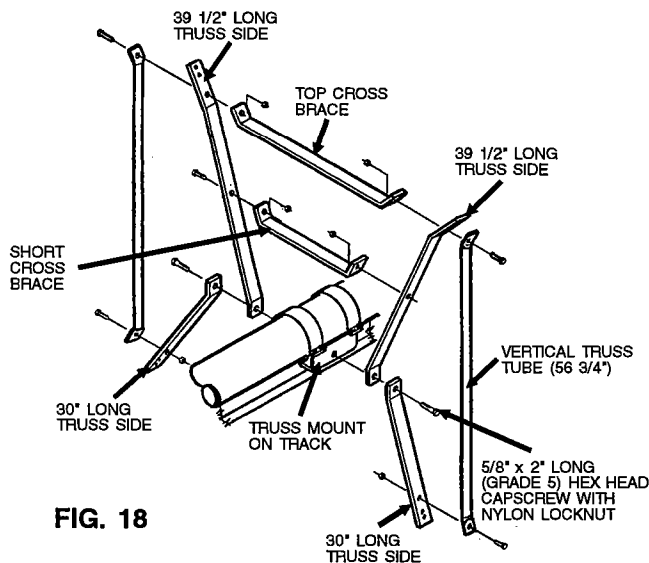

FIG. 18
See Fig. 18.
Step 9. Bolt the short cross brace between the 39 1/2" long truss sides using two 3/8" x 1 1/2" long (grade 5) hex head cap screw and nylon locknuts. Bolt the top cross brace between the truss sides and the vertical truss tubes using two 3/8" x 1 1/2" long (grade 5) hex head cap screws and nylon locknuts. Bolt the other end of the vertical truss tube to the 30" truss sides using two 3/8" x 1 1/4" long (grade 5) hex head cap screws and nylon locknuts. See Fig. 18. Tighten the hardware holding the truss sides to the truss mount.